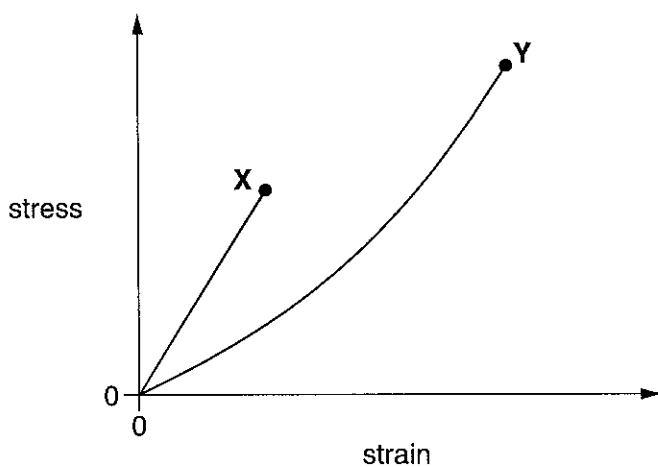

Fig. 7.1
- 7 (a) Fig. 7.1 shows stress against strain graphs for two materials X and Y up to their breaking points.